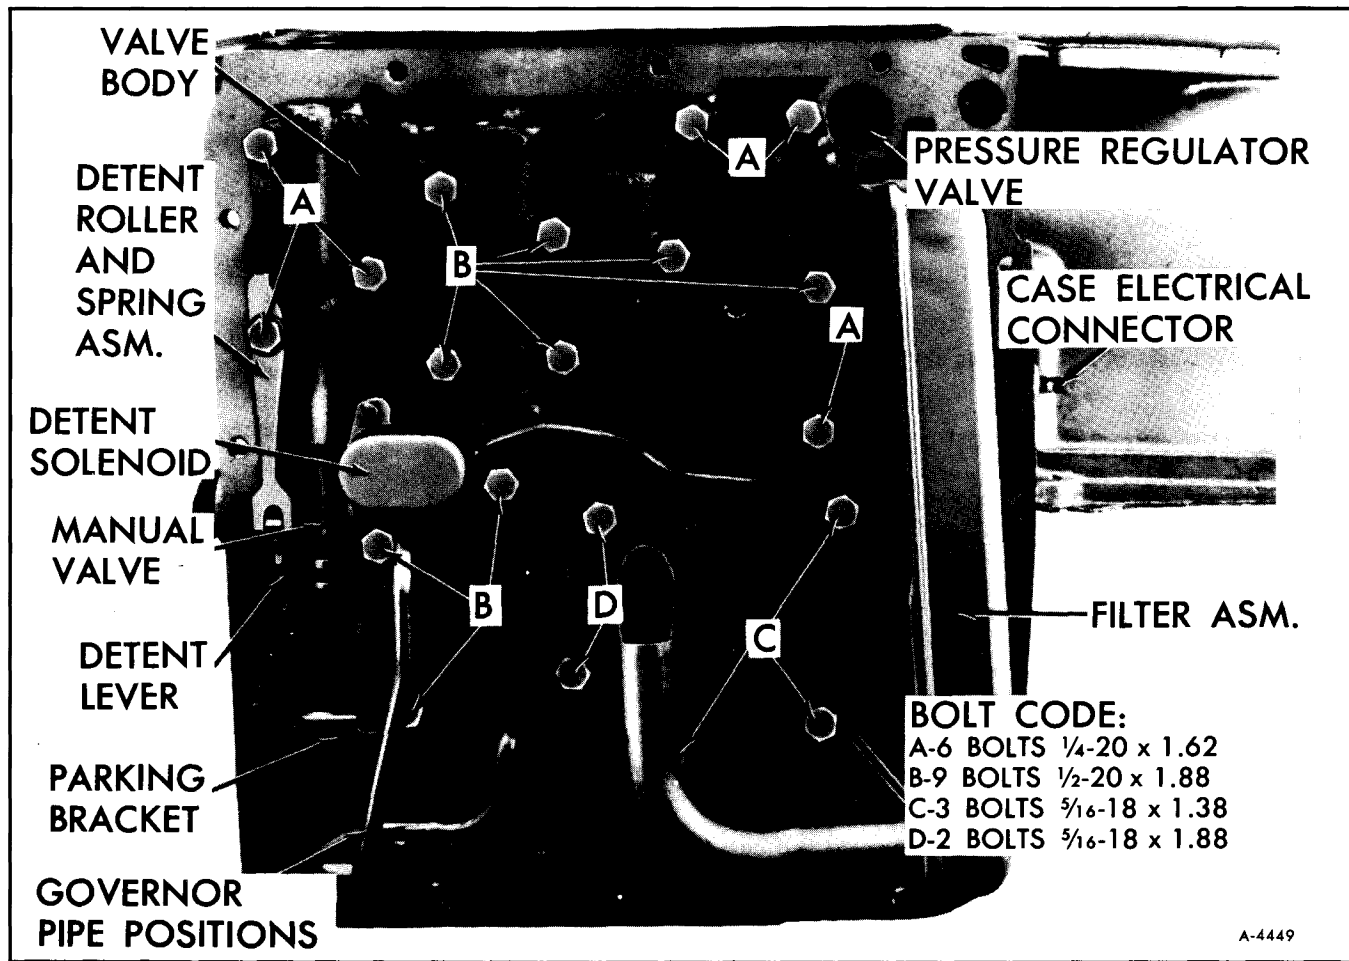

Figure 102—Control Valve Bolts
2. Remove guide pins and install control valve assembly attaching screws, eliminating detent roller and spring assembly attaching screw. Torque bolts to 8 foot-pounds, Figure 102.